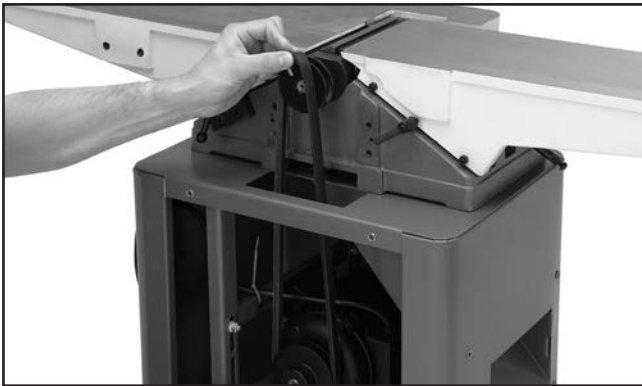

Figure 15. Installing V-belt.
- Lift the motor up far enough to allow the V-belts to be placed around the cutterhead pulley and the motor pulley (see **Figure 15**).